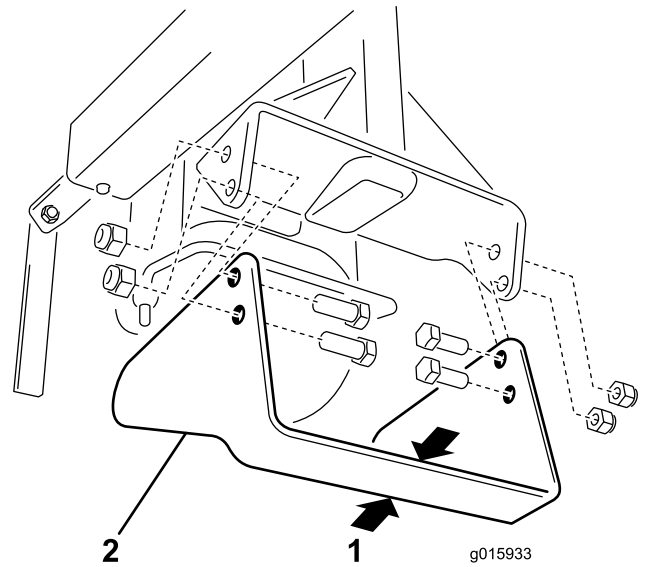

Figure 22
Check the edger blade frequently and replace the blade when the blade width is reduced to 1-1/4 inches (Figure 22).
3. Remove the 4 screws and nuts that secure the blade to the cutter arm (Figure 22).